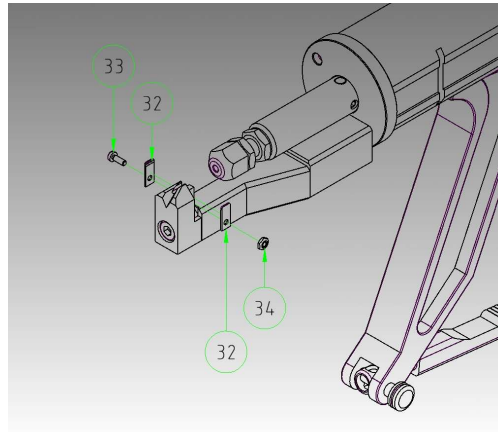

Figure 8
To change the springs (pos.32), the hex nut (pos.34) must be unscrewed. Pull out the socket cap screw (Pos.33). The springs must always be changed in pairs. The installation takes place in reverse order (see figure 8).